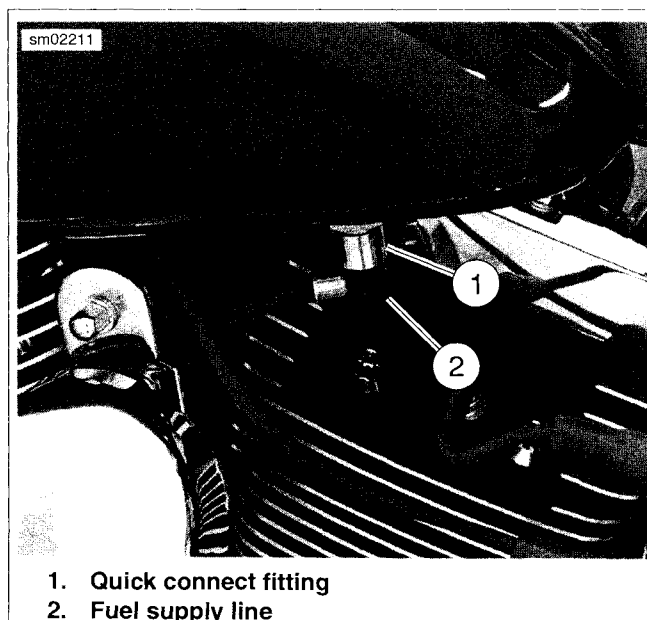

Figure 4-4. Fuel Supply Line Fitting
4. See Figure 4-4. Pull up on chrome sleeve of quick-connect fitting (1) and pull down on fuel supply line (2) to disconnect.
5. See Figure 4-4. Connect fuel supply line (2).
7. See Figure 4-4. Connect fuel supply line (2).